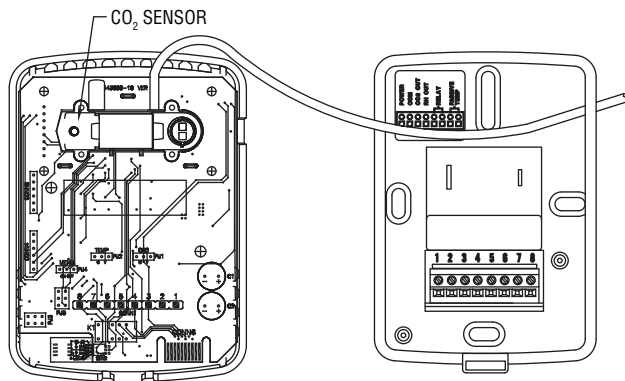

Figure 7: Calibration
Step 2: Slide the calibration tubing through the slots on the back plate and attach to one of the nipples on the CO2 sensor (See Figure 7).